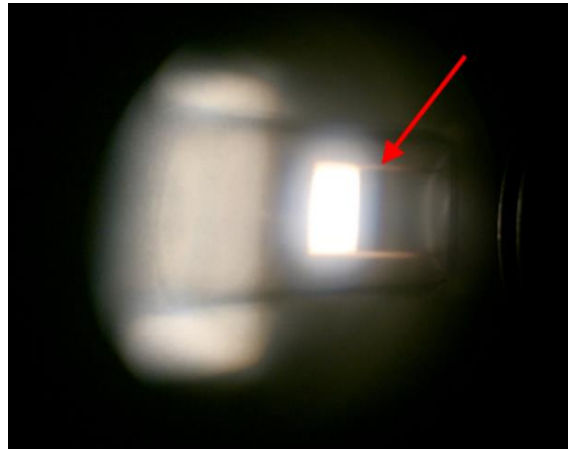

Figure 37: Primary image of QTH lamp filament after adjusting condenser lens assembly.
10. **Figure 37.** This image is referred to as the “primary image”.